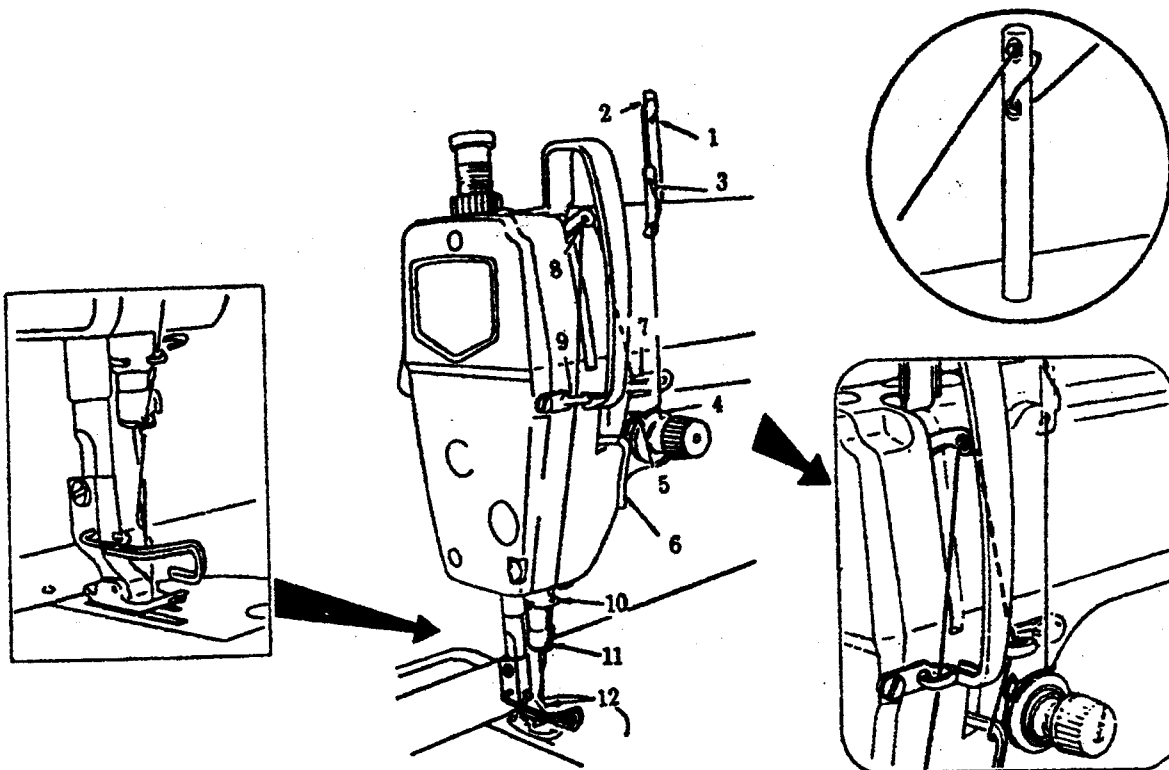

Fig.12
6. THREADING THE MACHINE HEAD (Fig.12)